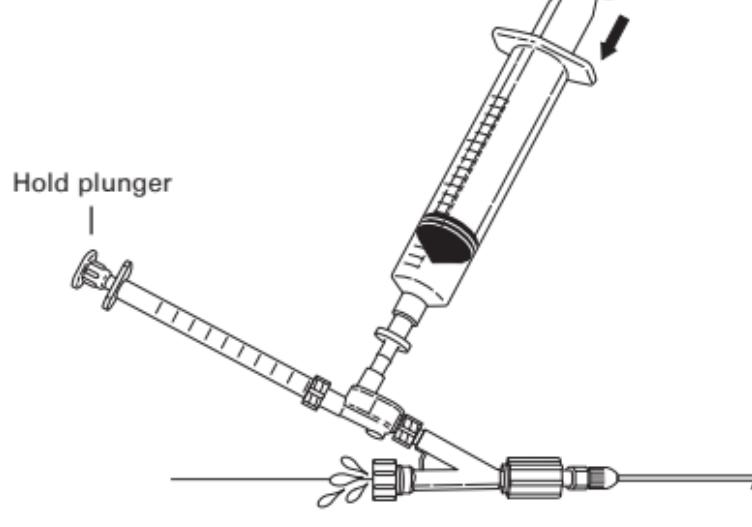

Fig. 6
8. Purge any remaining air bubbles by holding the plunger on the 1 ml syringe stationary, and slowly depressing the 20 ml syringe to force any remaining air bubbles out. Once all air has been removed from the system, tighten the Tuohy-Borst valve around the tip occluder. (Fig. 6)